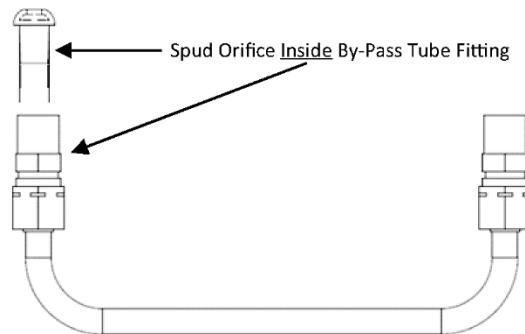
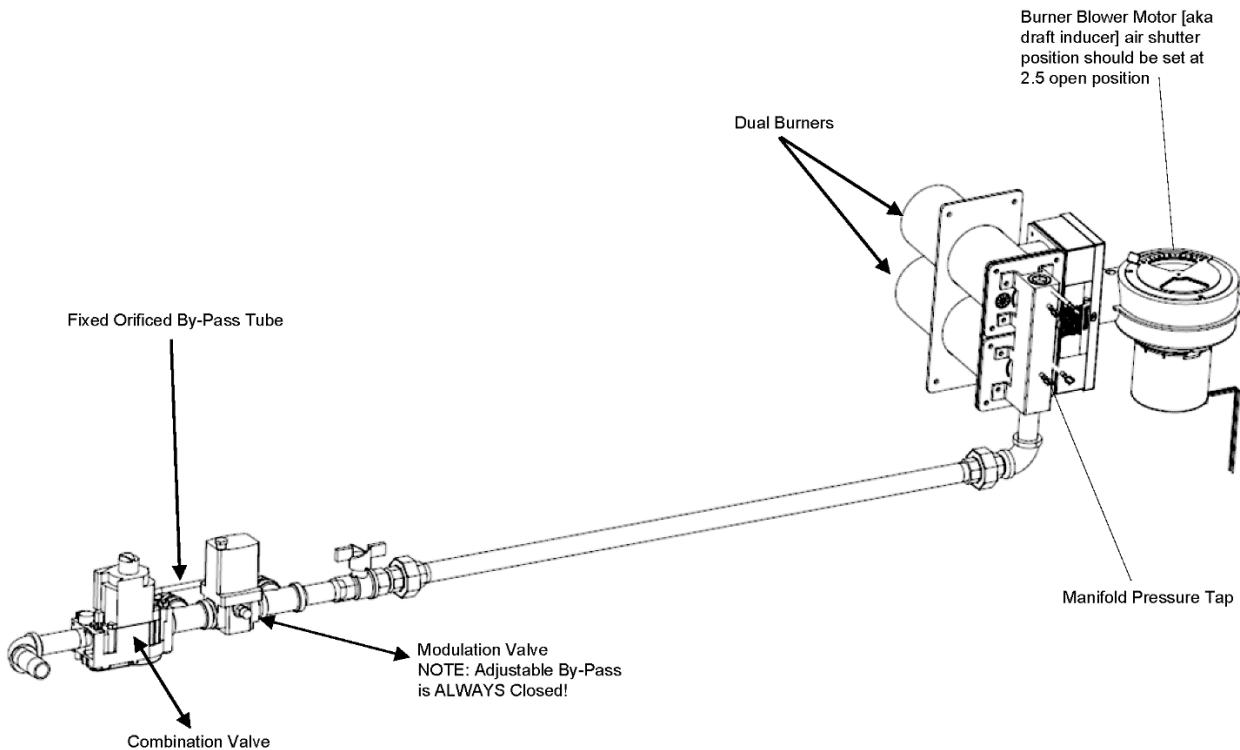

Figure 27. Bypass Orifice Inside Tube
Figure 28. Gas Train and Burner Assembly
location shown in Figure 28, which also shows the gas train and burner assembly.
- Replace the bypass orifice (Figure 27)
3. Loosen the brass compression fittings at each end of the fixed orificed by-pass tubing. Remove the by-pass tubing from the gas train (Figure 28). Remove the mushroom spud orifice from the by-pass tubing (Figure 27) and replace with the supplied LP by-pass orifice. Remount the by-pass tubing assembly and tighten all the fittings. Check for leaks.